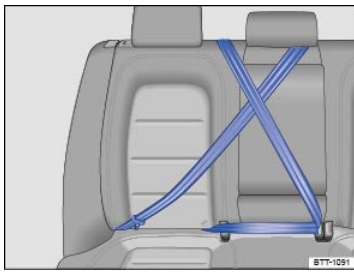

Fig. 43 Keep unused safety belts away from children in child restraints.
You must take special precautions to prevent a child from playing with an unused safety belt and becoming entangled with it ⇒ Fig. 43. Always route the center safety belt and the unused safety belt for the seating position where the child restraint is being installed securely out of the child's reach.
- Buckle the safety belt ⇒ Fig. 43.
You must take special precautions when installing a child restraint with the vehicle safety belt or with LATCH/UCRA lower universal anchorages on a rear seating position. Always route the center safety belt and the unused safety belt for the seating position where the child restraint is being installed securely out of the child's reach. Securing the safety belts will help prevent a child from playing with an unused safety belt and becoming entangled with it ⇒ Using a child restraint on the rear seat, ⇒ Fig. 43.
You must take special precautions when installing a child restraint with the vehicle safety belt or with LATCH/UCRA lower universal anchorages on the rear seating positions. Always route the center safety belt and the unused safety belt for the seating position where the child restraint is being installed securely out of the child's reach. Securing the safety belts will help prevent a child from playing with an unused safety belt and becoming entangled with it ⇒ Using a child restraint on the rear seat, ⇒ Fig. 43.